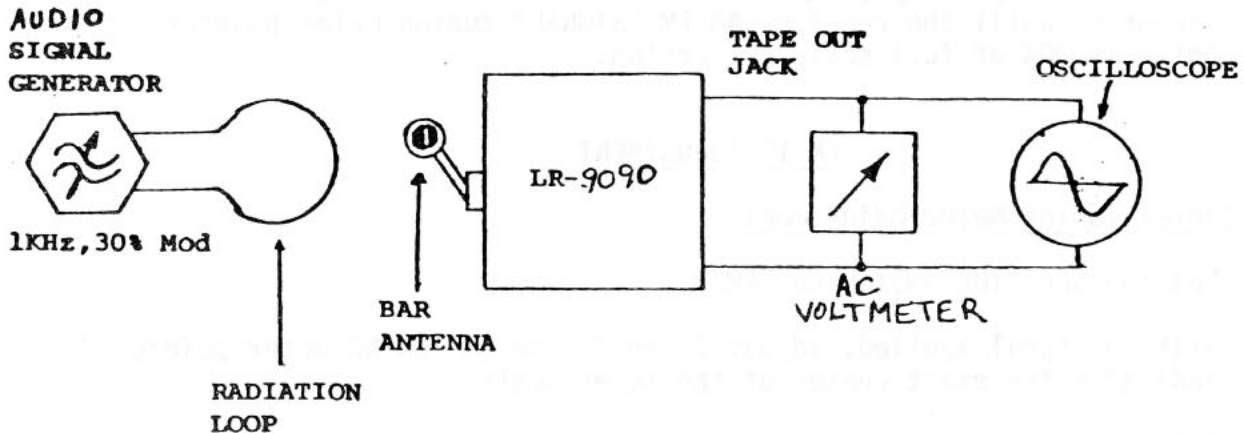

FIGURE 1. AM FRONT-END ADJUSTMENT TEST SET-UP
1. Connect test equipment to the receiver as shown in Figure 1, "AM Front-End Adjustment Test Set-Up".
- Connect test equipment to the receiver as shown in Figure 1.